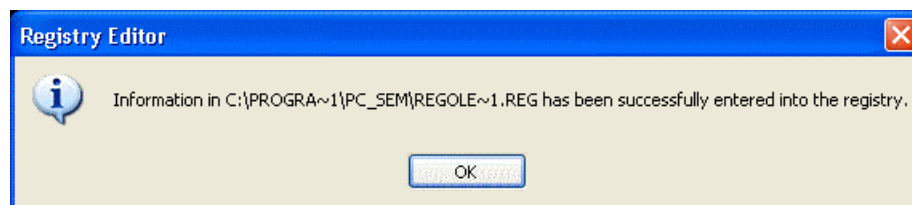

Fig. 6.3-9 Registry Editor Window
9. Click on **OK** when a window as shown below appears (**Fig. 6.3-9**).